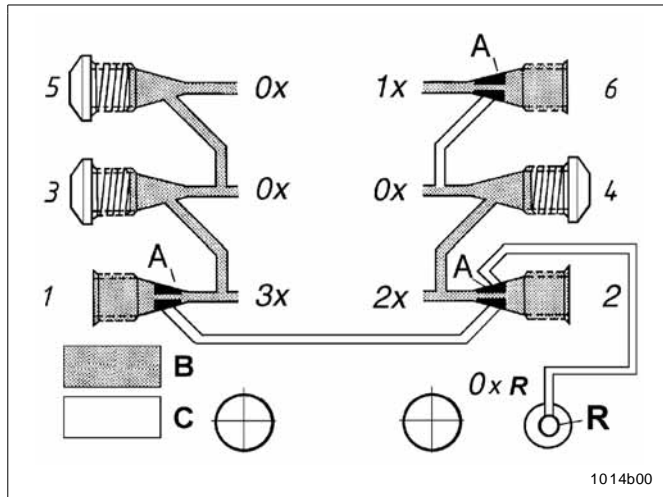

Fig. 1-1 Single double and triple lubricant output (on back side mounted divider block)
- A single output is the lubricant quantity fed to the lube point by a piston per stroke and outlet port. **It amounts to approx. 0.2 cm³**, see outlet 6 (fig. 1-1).
If **outlet 2** (fig. 1-1) is connected to a lubrication point, **outlet 1 must not be closed**, see clamping ring (A) in outlet 2.
- The remaining outlets are to be used for the connection to the lube point or for increasing the lubricant quantity (double or triple), comp. fig. 1-1.